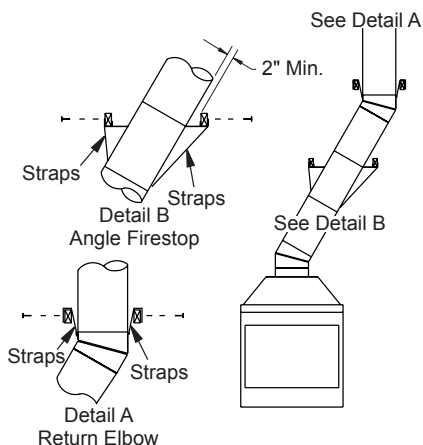

Figure 11 - Ceiling Support Pipe
- Chimney weight above offset rests on return elbow. Straps must be securely nailed to rafters or joists (see Figure 11, details A and B).